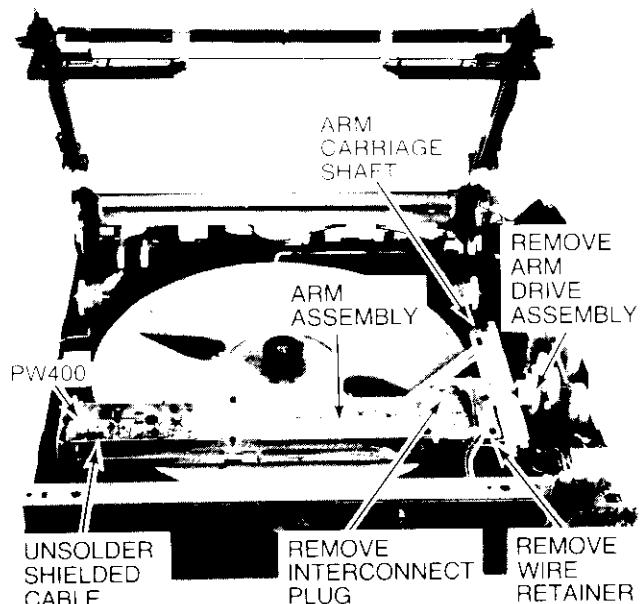

Fig. 20—Turntable and Arm Assembly
- Remove three (3) pozi-drive (+ head) screws holding
- guide rail assembly and lift assembly to 45° angle. (Fig. 20).
6. Lift Arm Carriage Shaft (Fig. 20) from its rear baseplate mounting and pull it loose from its front baseplate mounting.